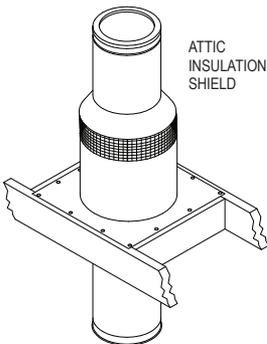

Figure 10
9. Install Attic Insulation Shield: Install the Attic Insulation Shield where the chimney passes into an attic. Its purpose is to prevent debris and building insulation from getting too close to the chimney (**Fig 10**). An installed Attic Insulation Shield is 15 inches high. In attic areas where this shield cannot fit, you must enclose the attic portion of the chimney in a framed enclosure. If the chimney is fully enclosed through the attic, an Attic Insulation Shield is not required. Where the chimney passes into the attic, install the Attic Insulation Shield as follows:
top of the framed opening using at least (3) 8-penny nails or (3) #8, 1-1/2" wood screws per side (**Fig 10**).